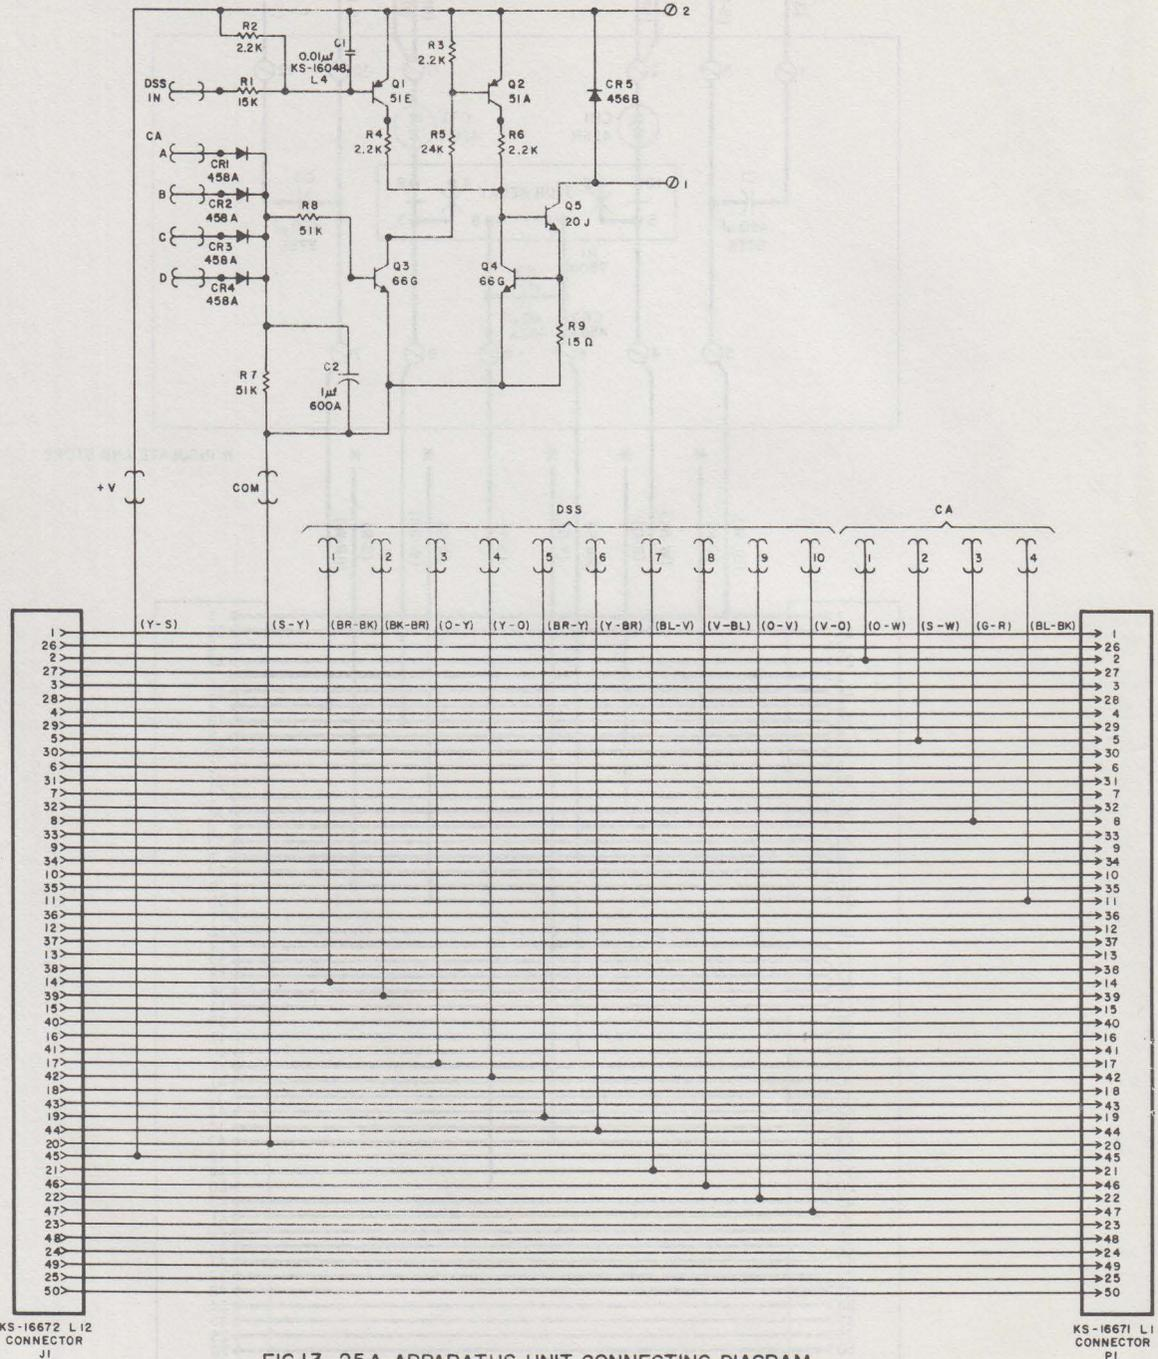

FIG.13. 25A APPARATUS UNIT CONNECTING DIAGRAM
- 4.02 Connect the 25A apparatus unit (Figure 13) as follows: